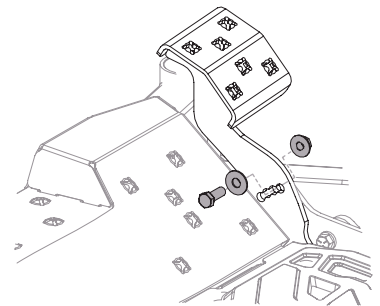

Figure 42
2. Remove the hex bolt, washer and hex nut near the center of the pedal assembly. See Figure 42.
4. Reinstall the hardware previously removed and torque the nut to 28-35 ft-lbs (38-47 N-m). See Figure 42.